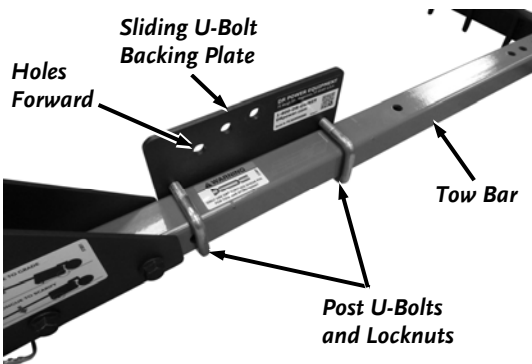

Figure 15
16. Secure the Sliding U-Bolt Backing Plate to the right side of the Tow Bar (three holes facing forward) with two Post U-Bolts and four 3/8" flange Locknuts using a 9/16" Wrench. Do not over tighten (**Figure 15**).